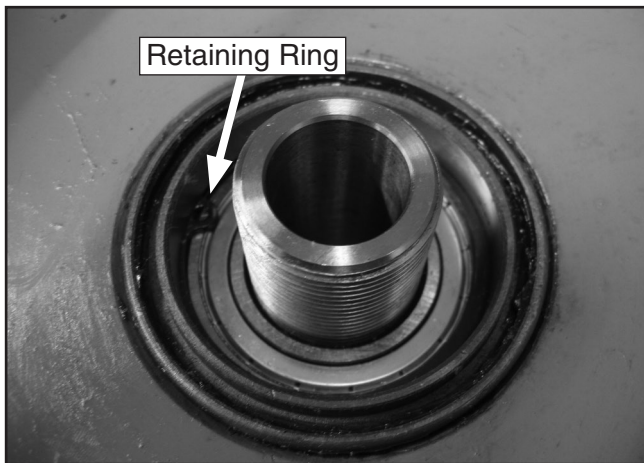

Figure 6. Retaining ring location.
- Remove the internal retaining ring (shown in **Figure 6**) with retaining-ring pliers.